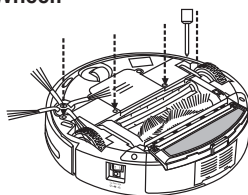

Figure 1
1. Release the screws of the left / right wheel using a screwdriver. (Refer to Figure 1)